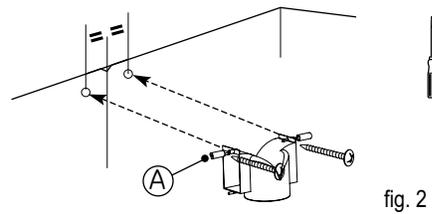

fig. 2
- Hang the hood from its hooks (E/fig. 2).
- Adjust height and level by moving the clamp screws (E/fig. 2) of the supports (the top screw for horizontal fit and the bottom screw for fitting against the wall).
- Mount the retention valve at the motor outlet (fig. 2). This retention valve blocks the entry of air from the exterior.
- Using the two screws (fig. 2), attach the plastic smoke deflector against the wall, flush with the ceiling for support. Be careful to centre the deflector in relation to the vertical line drawn on the wall (fig. 2).
- For models up to 700 mm, add the 2 struts supplied in the pocket (A/fig. 2).